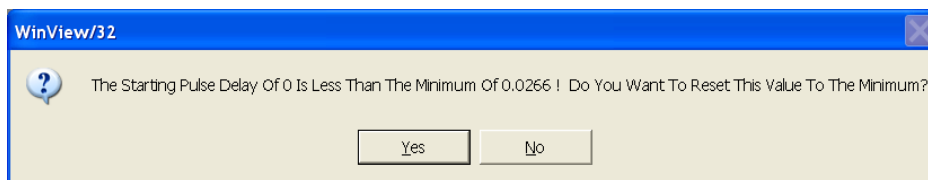

Figure 147. Range Limits Exceeded Warning
**Check Gate Width and Delay Min/Max (Message Displayed):** If this box is checked and you specify a gate width or delay outside the allowable range, a warning message (Figure 147) will be displayed. Clicking **Yes** will cause the parameter in question to be set to the limit value. Clicking **No** will cause the parameter *setting* to be retained, but the *actual* value will still be the applicable minimum or maximum. If the box is not checked, the applicable minimum or maximum will be established automatically.